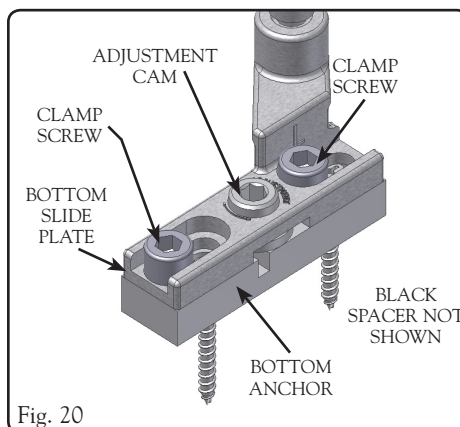

Fig. 20
- See Fig. 20 & 21. Remove the clamp screws and bottom slide plate.